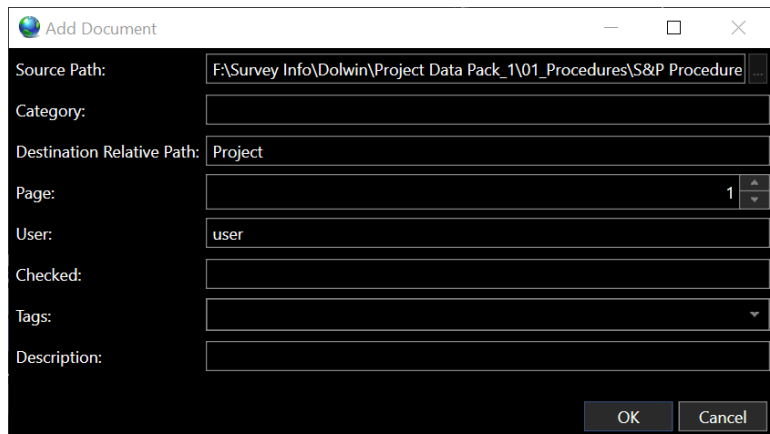

FIGURE 8-106 WINDOWS - DOCUMENTS – ADD DOCUMENT DIALOG
1. To add a document, click on the add button and browse to the document to be added. When document is selected, the Add Document dialog is opened, see Figure 8-106.